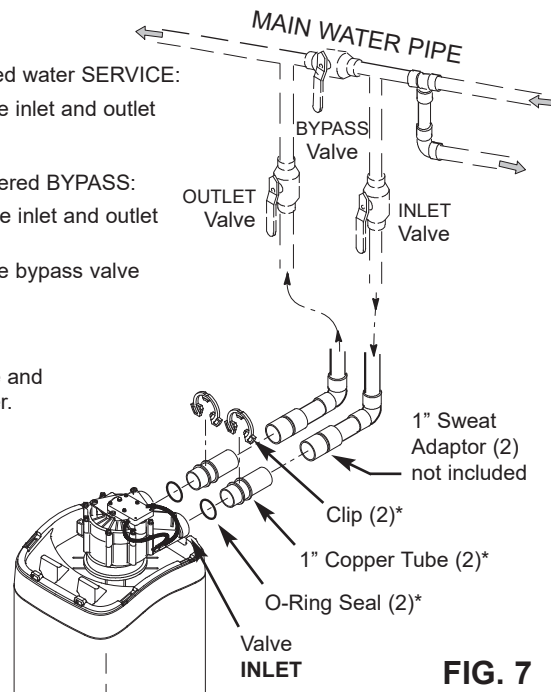

FIG. 7
- If installing a 3-valve bypass system, slide plastic installation adaptor and copper tube, with lubricated o-ring seals in place, into the valve inlet and outlet ports, respectively (See Figures 7 & 9).
The house cold water pipe (metal only) is often used as a ground for the house electrical system. The 3-valve bypass type of installation, shown in Figure 7, will maintain ground continuity. If you use the plastic bypass, continuity is broken. To restore the ground, do the following:
- Place bypass valve(s) into "bypass" position. On a single valve, slide the stem inward to BYPASS (See Fig. 8 on page 6). On a 3 valve system, close the inlet and outlet valves, and open the bypass valve (See Fig. 7 on page 6).